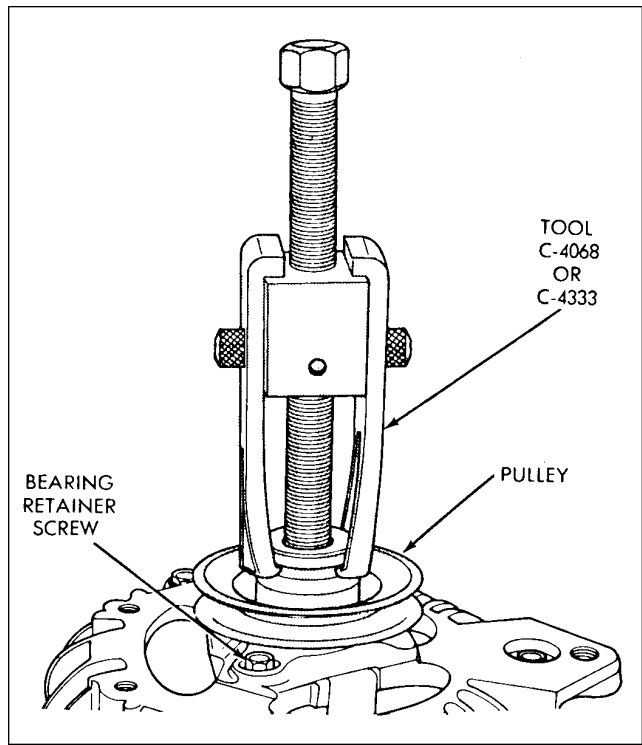

Figure 24-13. Removal of Pulley
1. Remove the pulley with tool C-4068. (Refer to Figure 24-13.)